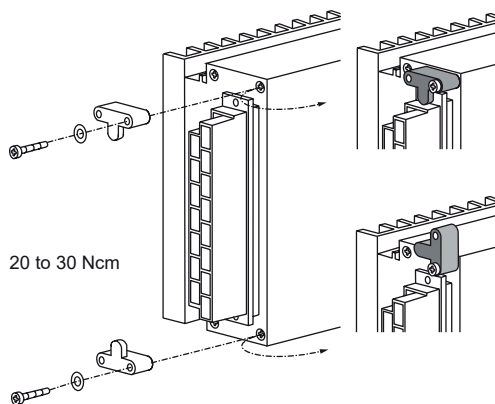

Fig. 25
- Pair of connector retention clips HZZ01209-G; see fig.25